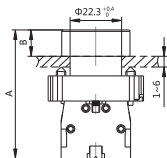
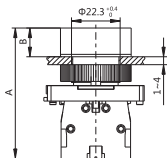

Figure 2 NP2-BA□□
Figure 3 NP2-EA□□
2) See Figure 2 and Figure 3 and Table 4 and Table 5 for product overall dimensions.